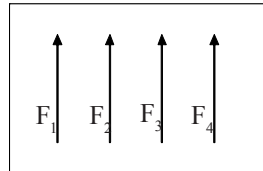

Fig.2.7
- g) Coplanar non-concurrent like parallel forces: The forces, whose line of action lie in the same plane, do not meet at one point parallel to each other and acting in the same direction are called as coplanar non-concurrent like parallel forces(fig2.7)